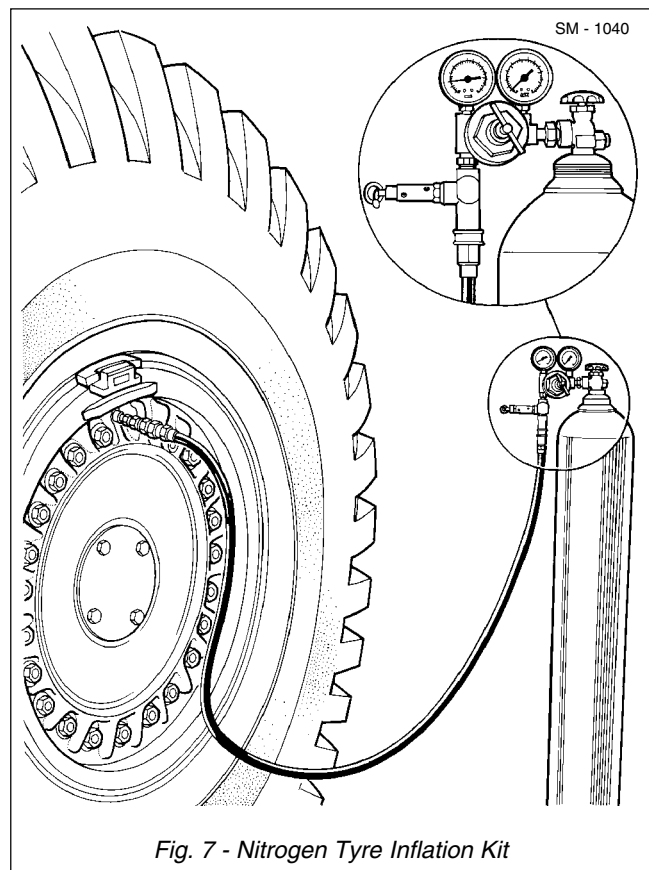

Fig. 7 - Nitrogen Tyre Inflation Kit
1. A nitrogen tyre inflation kit is available from your dealer and consists of the following. Refer to Fig. 7.